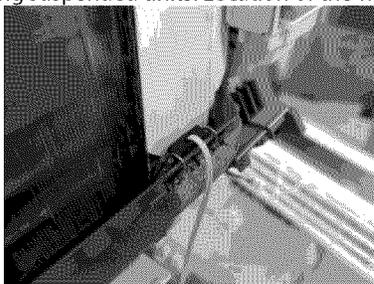

Fig 10
12. Once the best location has been determined, remove the double-sided tape on the Water Sensor and reinstall it in the same manner as described above. Ensure the Water Sensor touches the bottom of the trough and the panel clips are pushed all the way down on the front edge of the trough (Fig 10).